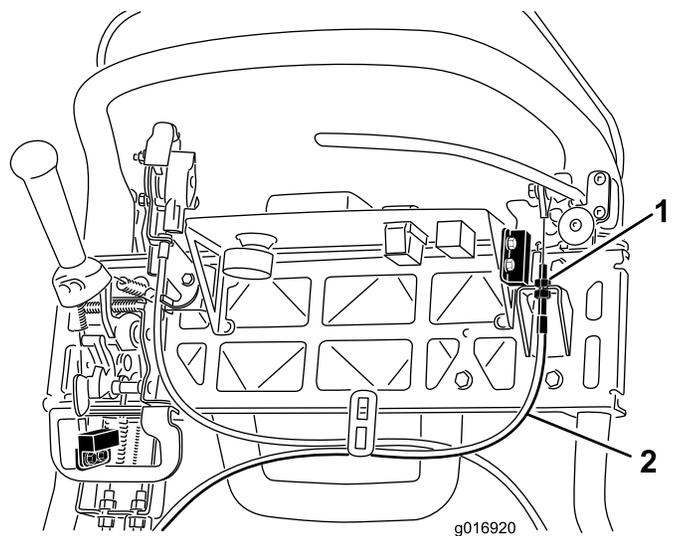

Figure 39
4. To increase the cable tension, loosen the upper cable jam nut and tighten the lower cable jam nut (Figure 39) until a force of 156 N (35 lb) applied to the brake lever handle is required to release the parking-brake latch.